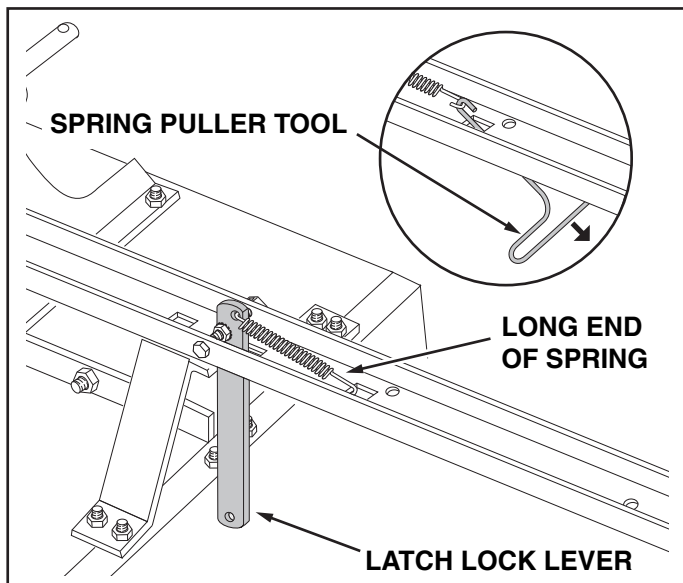

FIGURE 12
17. Hook the **short** end of the spring into the hole in the latch lock lever. Use the spring puller tool to hook the **long** end of the spring into the square hole in the tongue. The spring puller tool can be stored when finished. See figure 12.